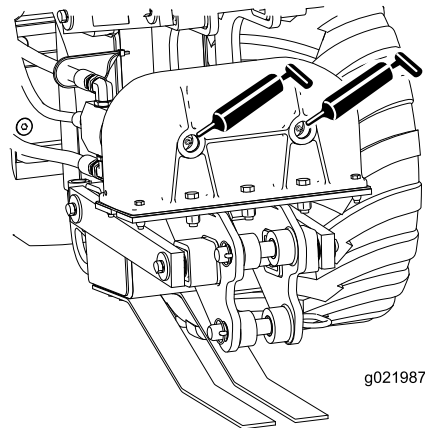
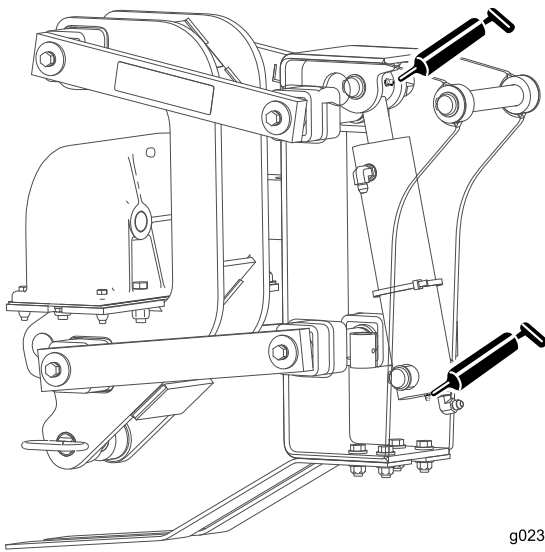
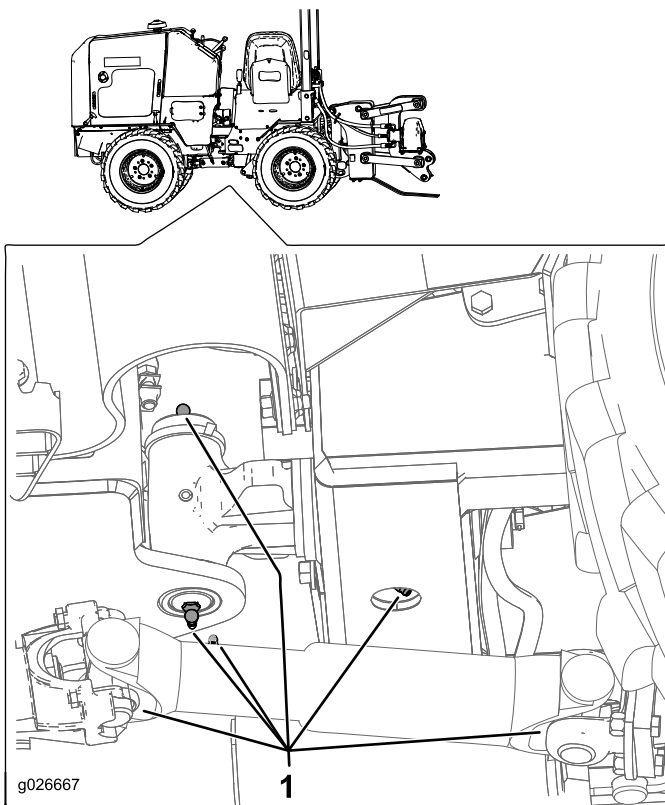

Figure 24
Figure 25
Figure 26
2. Connect a grease gun to each fitting (Figure 24, Figure 25, and Figure 26).